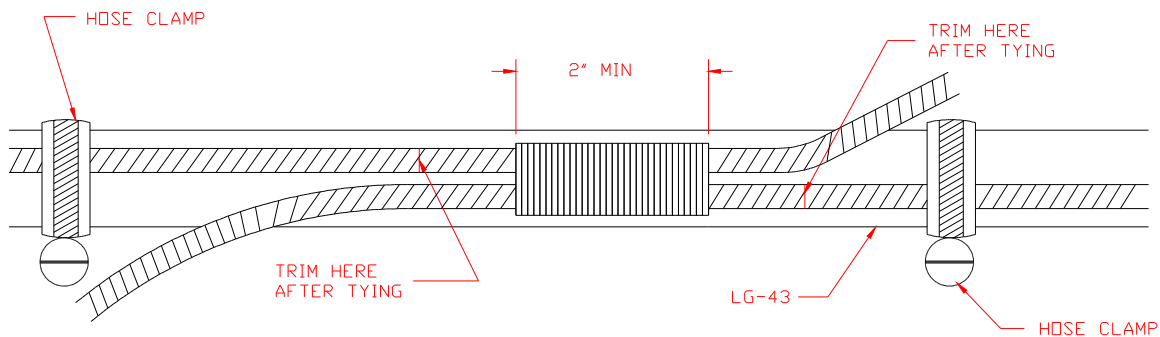

Figure 15.5.2
- 4) Clamp other end to the opposite LG-43. Tie off with cord as shown in Figure 15.5.2.